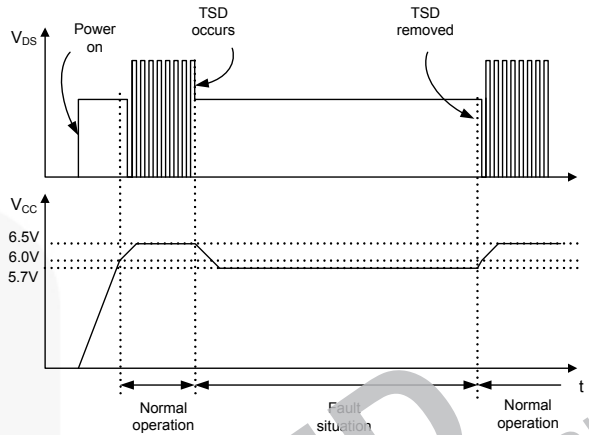

Figure 19. Over-Temperature Protection (OTP)
**3.2 Thermal Shutdown (TSD):** The senseFET and the control IC in one package makes it easy for the control IC to detect an abnormal over temperature of the senseFET. When the temperature exceeds approximately 140°C, the thermal shutdown triggers. When TSD triggers, delay current is disabled, switching operation stops, and  $V_{CC}$  through the internal high-voltage current source is set to 5.7V from 6.5V, as shown in Figure 19. Since TSD signal prohibits the senseFET from switching, there is no switching until the junction temperature decreases sufficiently. If the junction temperature is lower than 60°C typically, TSD signal is removed and  $V_{CC}$  is set to 6.5V again. While  $V_{CC}$  increases from 5.7V to 6.5V, the soft-start function makes the senseFET turn on and off with no voltage and/or current stress.